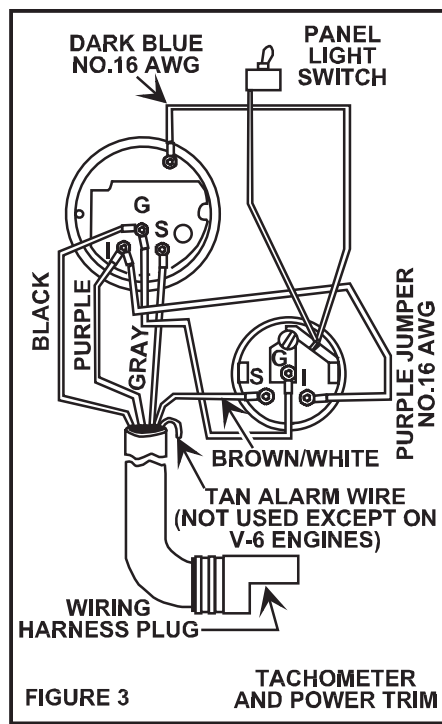

FIGURE 3 TACHOMETER AND POWER TRIM
3. Connect the black wire from the harness and a black jumper wire to the G (ground) terminal of the Tachometer (See Figure 3).